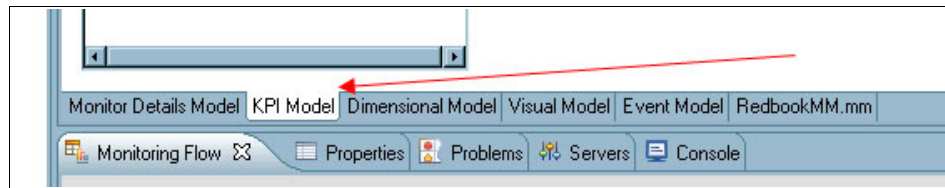

Figure 8-63 KPI model
1. Switch to the KPI model. See Figure 8-63.